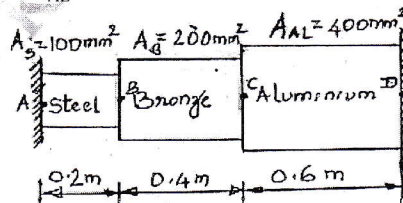

Fig. Q4 (b)
- A stepped bar with its both ends fixed as shown in Fig. Q4 (b) is subjected to an increase in temperature of 50°C . Determine displacements and forces at points A, B, C and D. Take Young's moduli of steel, bronze and aluminium as $E_s = 200 \text{ GPa}$, $E_B = 83 \text{ GPa}$ and $E_{AL} = 70 \text{ GPa}$ respectively. The coefficients of thermal expansions are $\alpha_s = 12 \times 10^{-6} / ^\circ\text{C}$, $\alpha_B = 19 \times 10^{-6} / ^\circ\text{C}$ and $\alpha_{AL} = 22 \times 10^{-6} / ^\circ\text{C}$. (14 Marks)